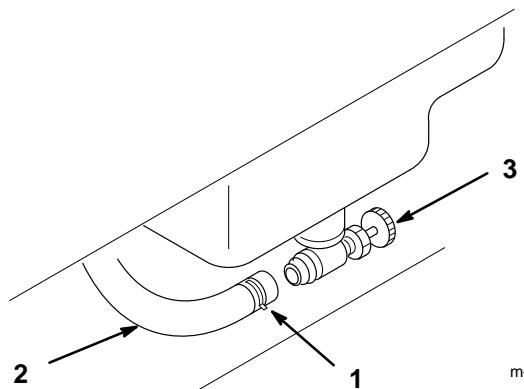

Figure 34
4. Pull the fuel line off fuel shut-off valve (Fig. 34). Open fuel shut-off valve and allow gasoline to drain into a gas can or drain pan.
5. Install the fuel line onto the fuel shut-off valve. Slide the hose clamp close to the fuel shut-off valve to secure the fuel line (Fig. 34).
3. Loosen the hose clamp and slide it up the fuel line away from the fuel shut-off valve (Fig. 34).